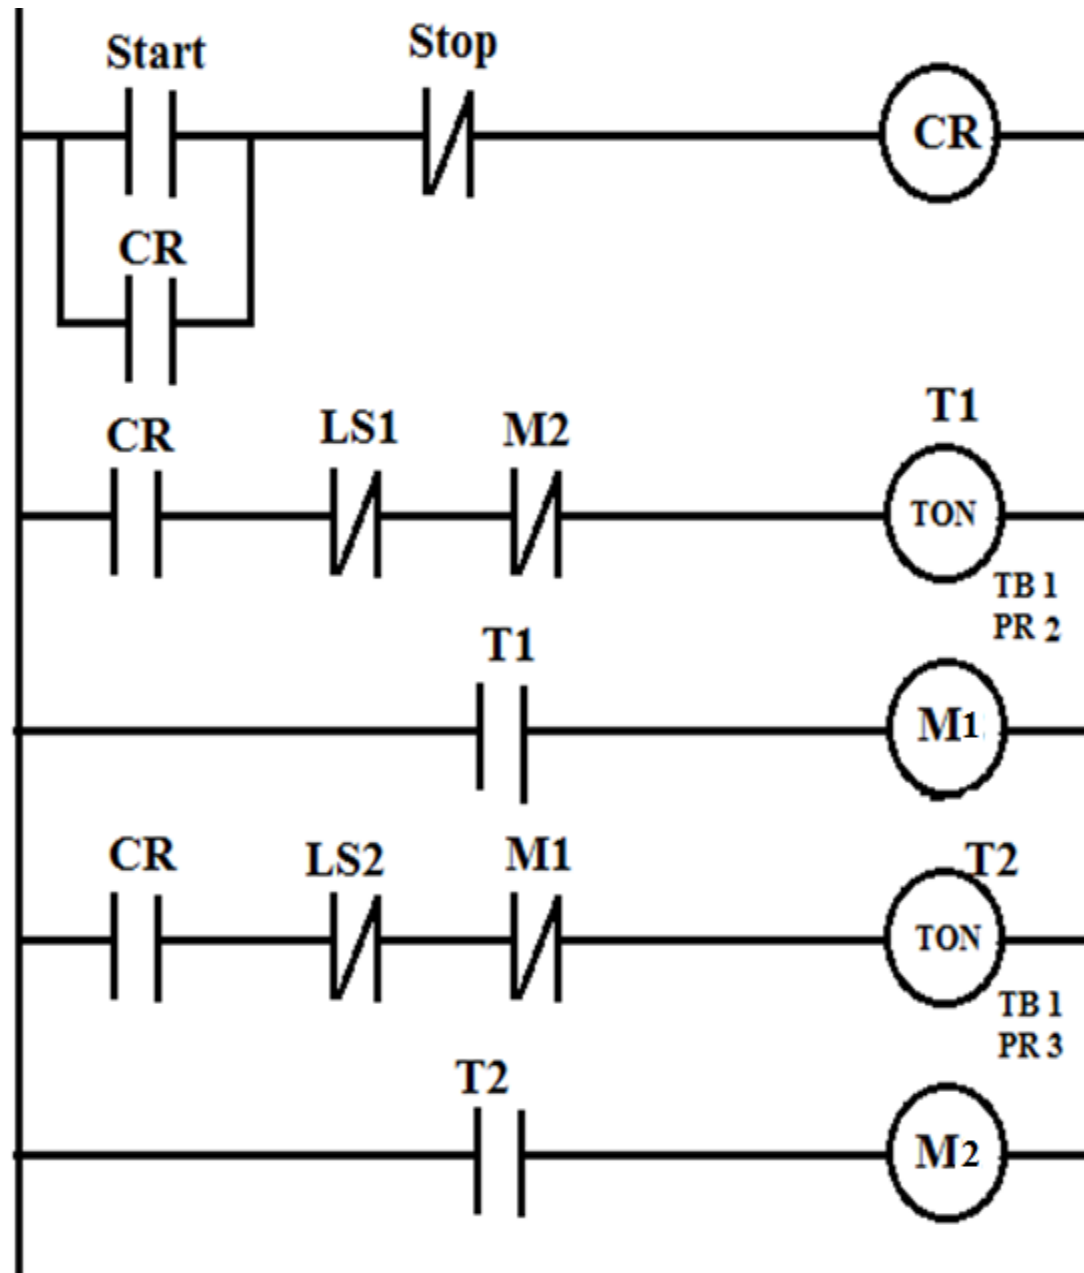

Fig.2
- For the two ladder diagrams shown in Fig.1 and Fig.2, using timing diagram, illustrate the states of CR, T1, T2, M1 and M2 for the states of input switches Start, Stop, LS1 and LS2 that shown in Fig.3